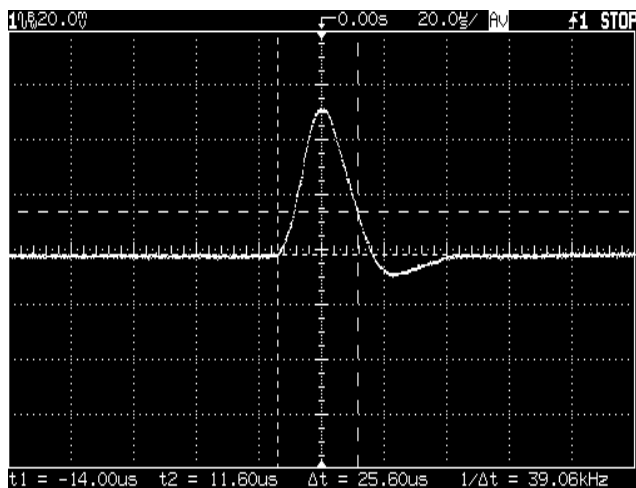

Figure A-4 Transient Response Time
- 5 Adjust the oscilloscope to display transients as shown in Figure A-4. Note that the pulse width (t2 - t1) of the transients at 15 mV from the base line is no more than 50  $\mu$ sec for the output.